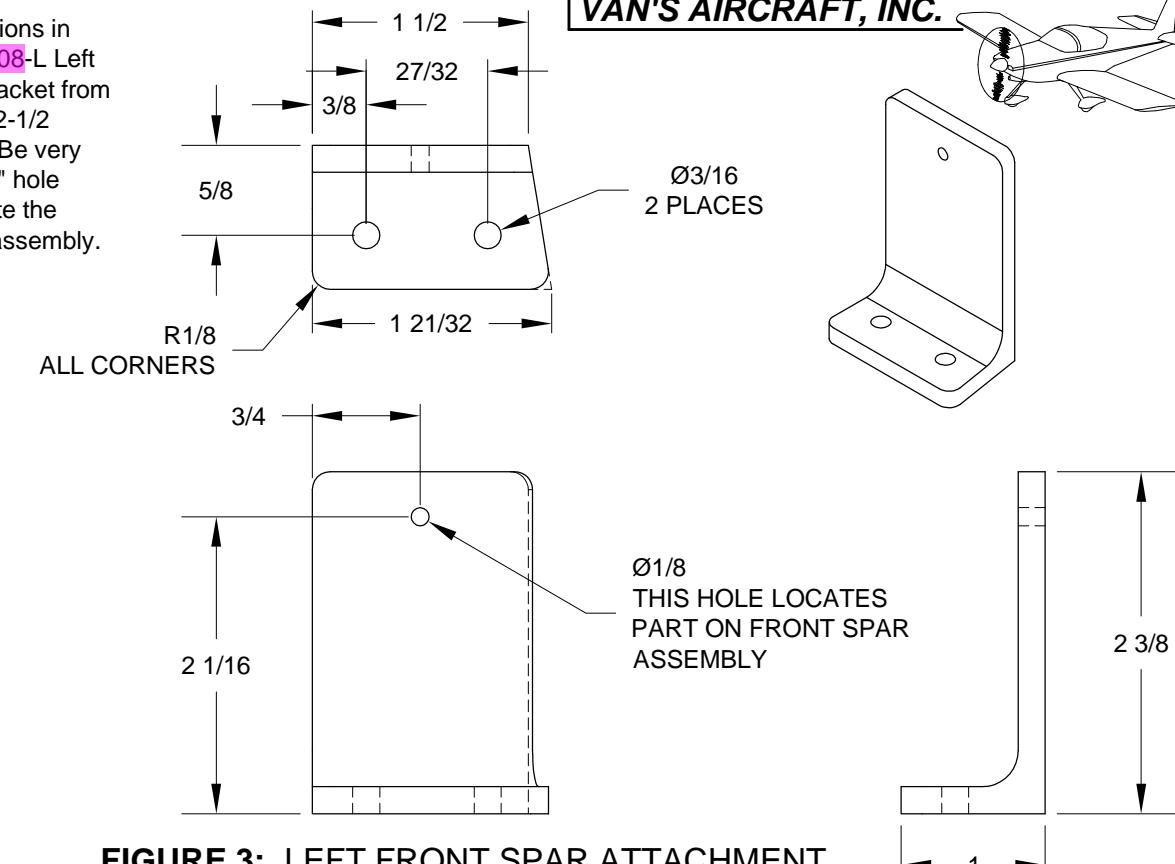

FIGURE 3: LEFT FRONT SPAR ATTACHMENT BRACKET
Step 3: Using the dimensions in Figure 3, make the HS-1008-L Left Front Spar Attachment Bracket from the length of AA6-187x2x2-1/2 angle provided in the kit. Be very accurate in drilling the 1/8" hole which will be used to locate the bracket on the front spar assembly.